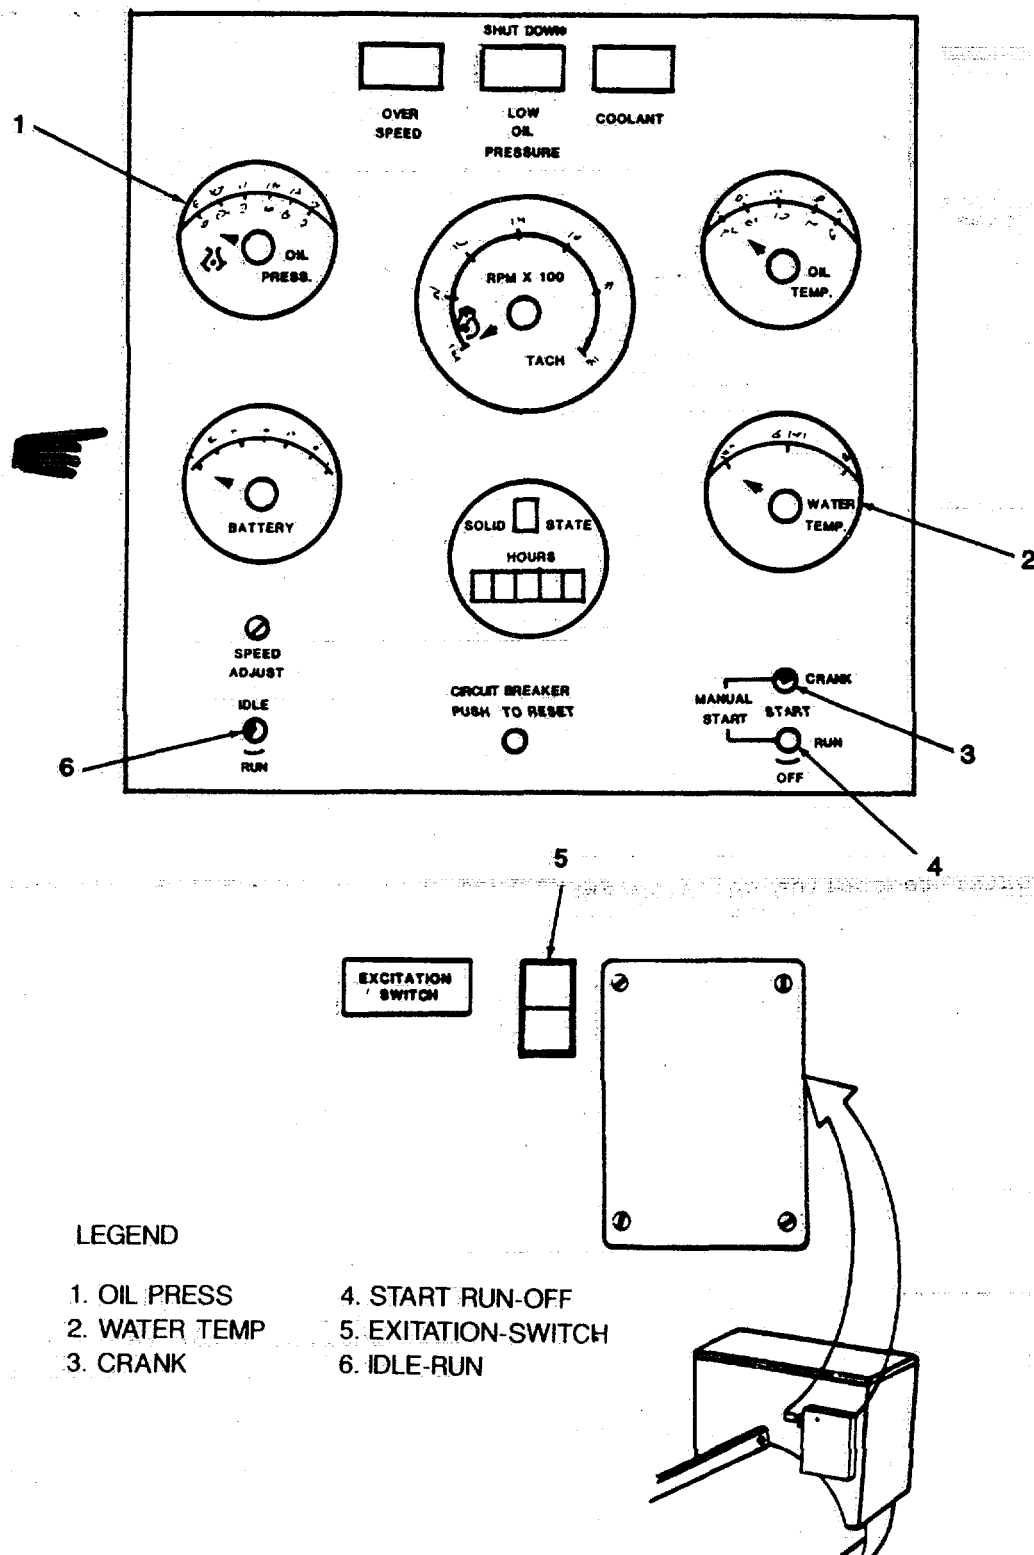

FIGURE 2-94. Ship Service Diesel Generator Control Panel
- f. On Ship Service Diesel Generator Control Panel (FIGURE 2-94), set IDLE/RUN switch (6) to IDLE position.
- g. Set START-RUN-OFF switch (4) to RUN position to ensure 24 Vdc power is available to start and then pull up to START position.
- h. Press CRANK pushbutton (3).